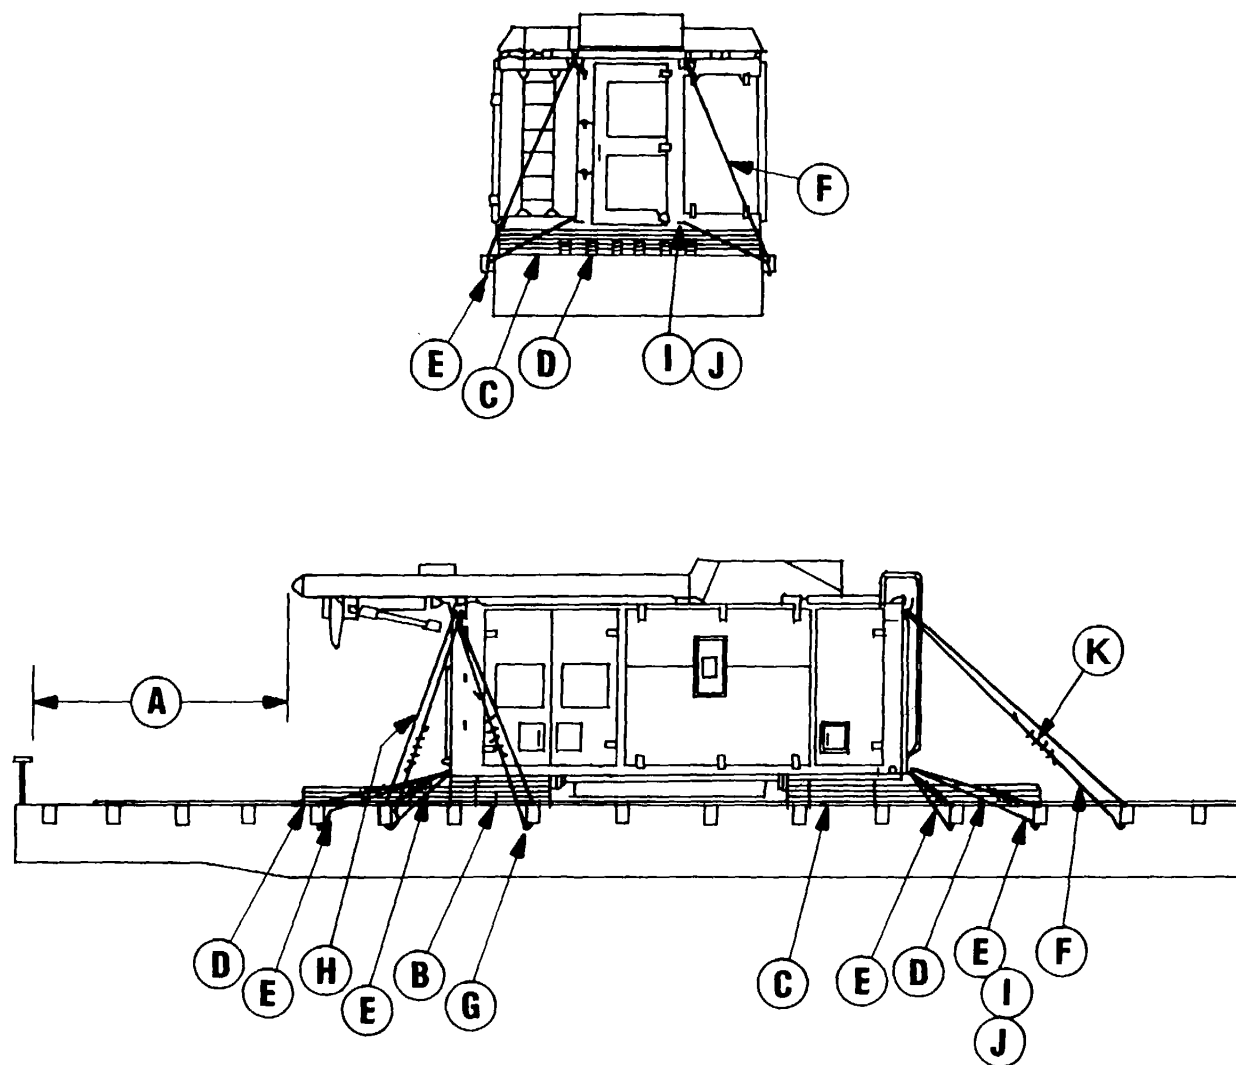

Figure 7-9. Blocking and tiedown of the RS on CONUS general-purpose flatcars.
g. Figure 7-9 identifies the special blocking and tiedown required for transport of the RS on CONUS general-purpose flatcars. Blocking detail